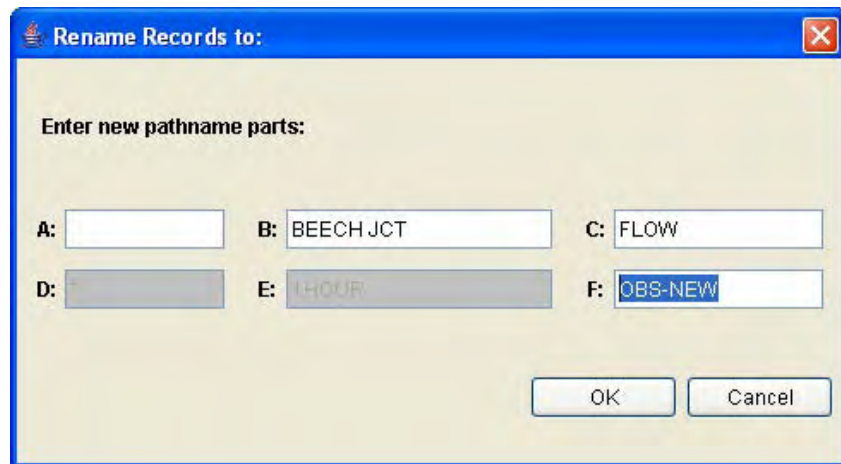

Figure E.16 HEC-DSSVue Rename Records Dialog Box
1. Select the record(s) either by double-clicking on it or by highlighting it then clicking the **Select** button. From the **Utilities** menu, select **Rename Records**. The **Rename Records to** dialog box (Figure E.16) will open.